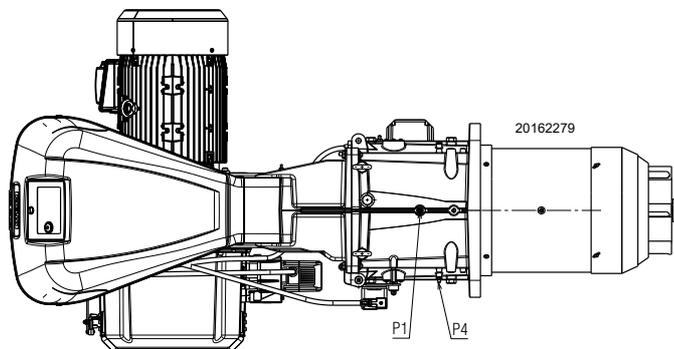

Fig. 25
Gas pressure measured at the test point P1) (Fig. 25), with:
- subtract the combustion chamber pressure from the gas pressure measured at test point P1) (Fig. 25).
$$\begin{aligned} \text{Gas pressure at test point P1)(Fig. 25)} &= 27.6 \text{ mbar} \\ \text{Pressure in combustion chamber} &= 2 \text{ mbar} \\ 27.6 - 2 &= 25.6 \text{ mbar} \end{aligned}$$
To calculate the required gas pressure at test point P1) (Fig. 25), set the MAX output required from the burner operation:
- read, on the right (column 1), the pressure at the test point P1)(Fig. 25).
Pressure required at test point P1)(Fig. 25).